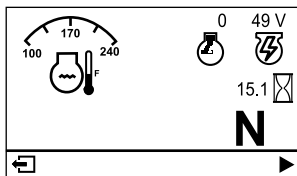

Figure 23
- **Main information screen (Figure 23):** shows current machine information while the key is in the ON position.